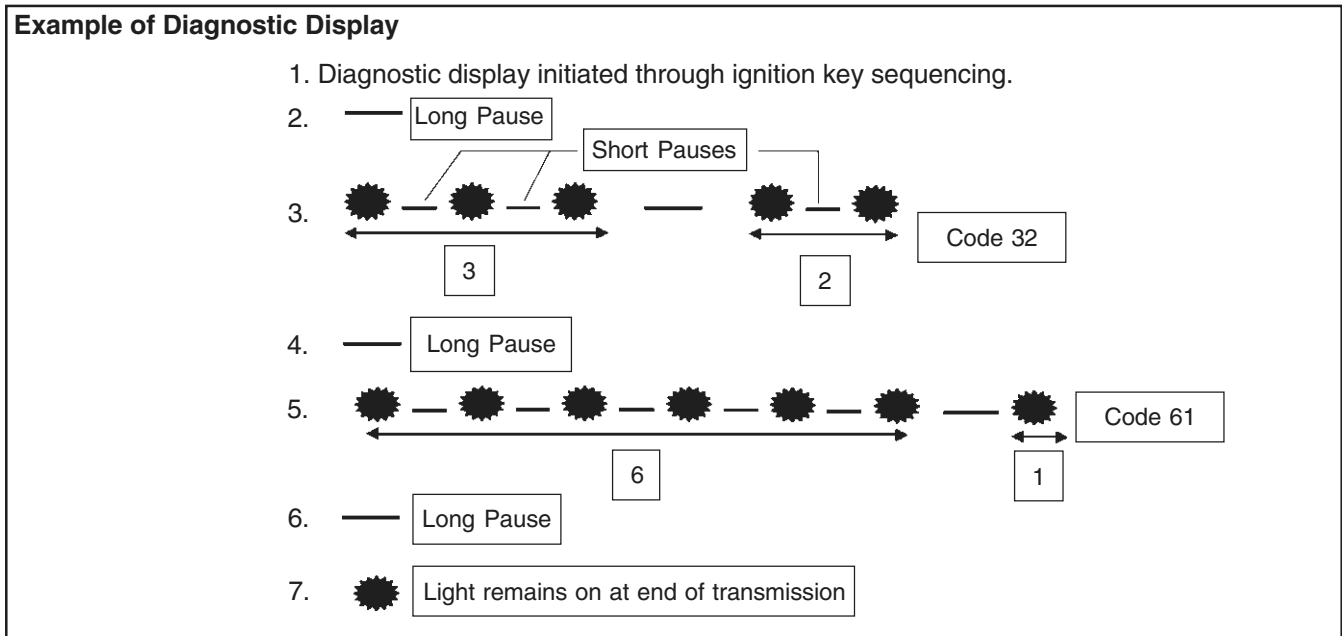

Figure 5B-39.
3. Any stored fault codes will then be displayed as a series of MIL blinks (from 2 to 6) representing the first digit, followed by a pause, and another series of blinks (from 1 to 4) for the second digit (see Figure 5B-39).